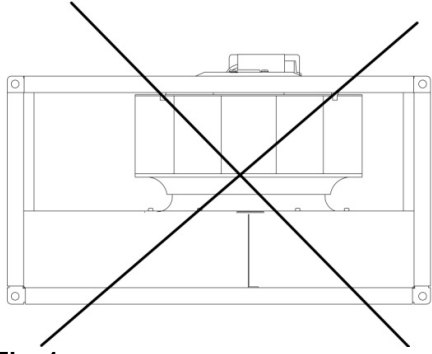
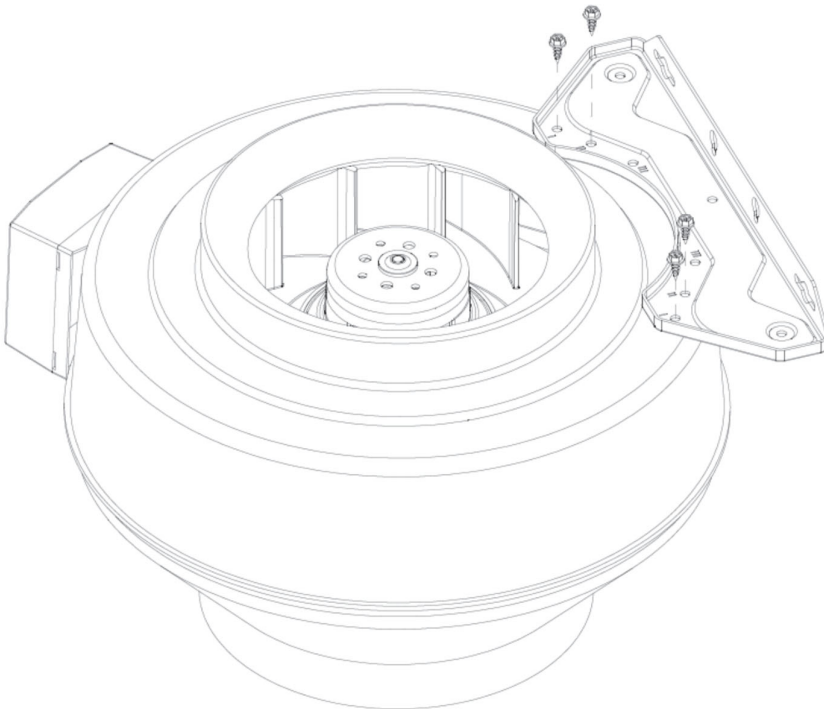

Fig. 1
Fig 3
Refer to Safety information above. Installation, electrical connection and commissioning are only to be carried out by authorised personnel and in accordance with requirements and demands. Electrical connections are made according to the wiring diagram in the terminal box, markings on terminal blocks or on cable. All 3 phase fans are delivered from factory in 400V 3~ connection. Seal any empty cable glands with dummy plugs. The K-fan must be installed with the connection box at the top of the unit  $\pm 90$  degrees. If permanent installation is carried out using cables with diameter 12-14 mm, the entrance bush must be replaced (applies to type K, KV, RVF and KVK 125/160). To preserve IP44 the RS fans must not be mounted with the connection box/motor plate upwards (**Fig.1**). Fans with thermal contacts with external leads (TK) must always be connected to external motor protection. Assemble the fan in the direction of airflow (see arrow on unit). The fan must be installed to ensure that any vibration is not transmitted via the duct system or frame of the building. (Suitable accessories such as fast clamps and diffusers are available). Make sure the assembly of the fan is firmly fixed and stable (**Fig 3**). The fan can be mounted in any direction unless stated otherwise. The fans must be installed to ensure that service and maintenance can be performed easily and safely. Disturbing noise can be reduced by installing silencers (available as an accessory).